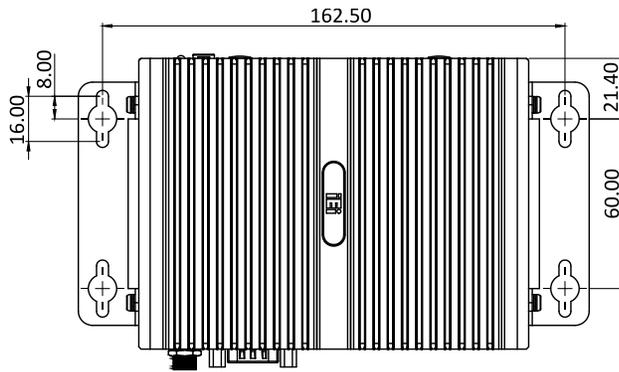

Figure 3-4: Mounting Dimensions
- Step 3:** Refer **Figure 3-4** to drill holes in the intended installation surface.